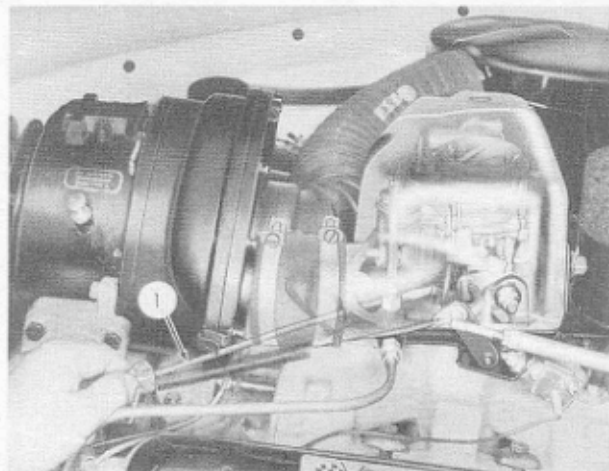

FIG. 16
2. Use a flexible shank screwdriver and turn idle mixture adjustment screws as required to obtain a smooth idle. (See Fig. 16.)